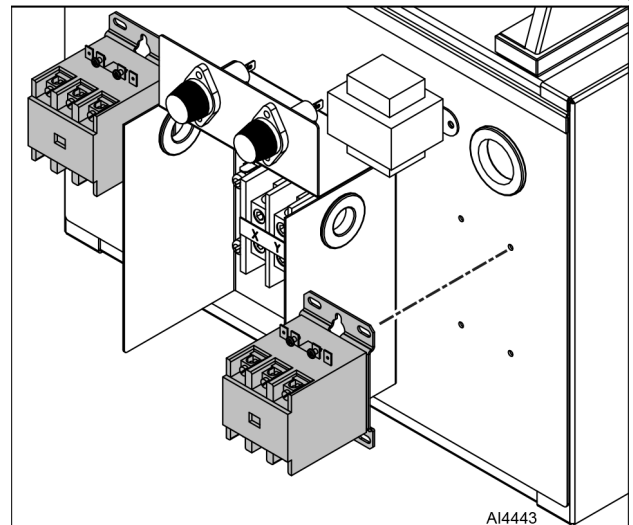

Fig. 22
- Disconnect wires from contactor (Fig. 22).